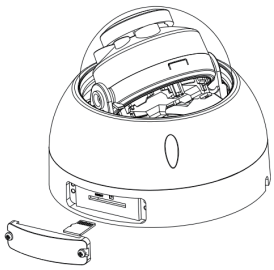

Figure 2-4 Installing a TF card
- 1. Install TF card: Insert the TF card into the TF card slot and install the TF card, as shown in Figure 2-4